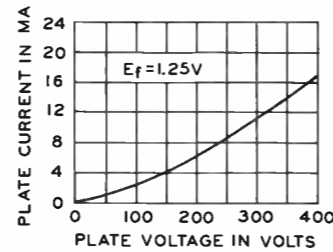

FIGURE 18
19. (c) 19. -- This curve indicates a plate current of 1000 ma at 50 volts, whereas the plate currents of the diodes represented by Figures 18 and 22 are much lower at this plate voltage.